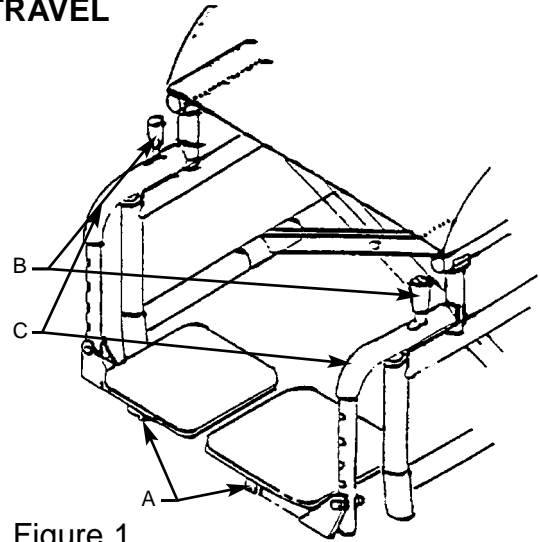

Figure 1
- 1 Flip up each footplate (A). Slide each locking pin (B) and lift and rotate each footrest hanger (C) upwards to remove (see FIG 1).